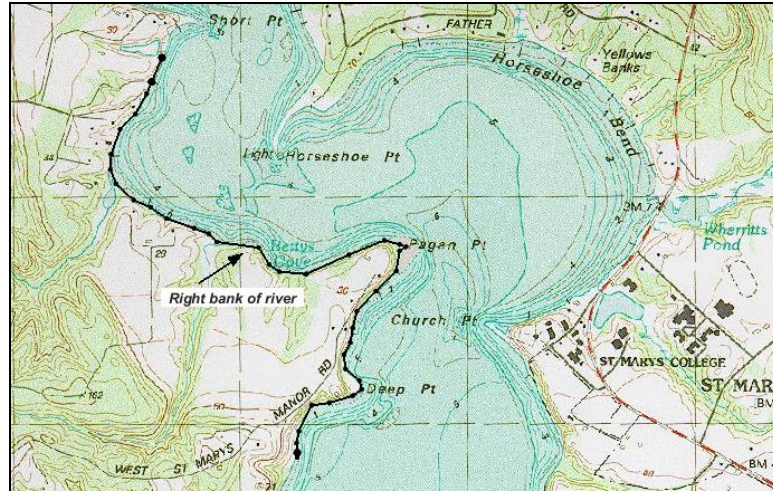

Figure 11 Creation of the first feature arc
3. Using the **Create Feature Arc**  tool from the dynamic toolbox, click out the right riverbank, as shown in Figure 11 (if necessary, use the **Zoom**  tool to get a closer view). (Note: the river flows from the top to the bottom, and the